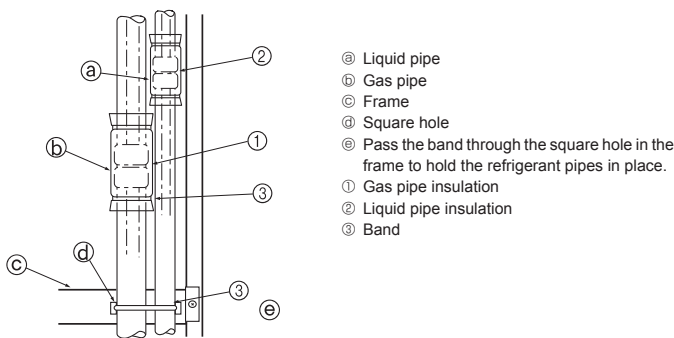

Fig. 4-5
Insulate flare joints (1) and (2) of the gas and refrigerant pipes completely. If any part of the joints are exposed, condensation can drip down. (Fig. 4-5)
- Fasten the gas pipe insulation (1) and the liquid pipe insulation (2) at both ends so that they will not slip and align with one another.
- After the insulation is installed, use a band (3) to fasten the refrigerant pipe to the frame (below the pipe joint section). This will prevent the refrigerant pipe from lifting up off of the frame. (When the refrigerant pipe is off of the frame, the grille cannot be installed.)